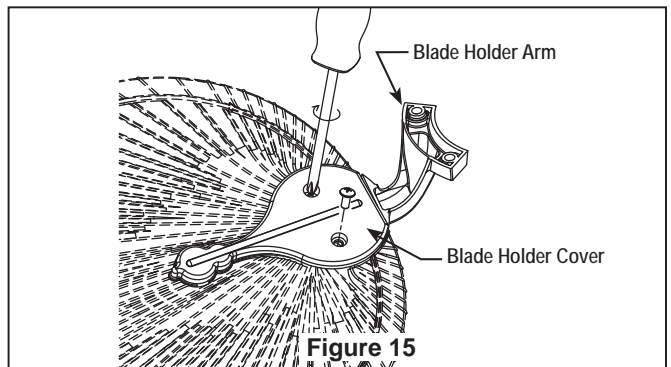

Figure 15
2. Lay flat side of blade holder arm on a flat surface with the inside of the blade holder arm facing up. This is the side with the threaded posts and pitched foot. Position the blade cover the blade holder with the threaded posts showing. Make sure the bottom edge of the blade is fully seated against the blade holder arm. Place blade holder cover on top of the blade, positioning the holes over the threaded posts. With a Philips screwdriver, thread both screws into the posts but do not fully tighten. Prior to final tightening, position the centerline of the blade holder with the center of the end of the blade. Tighten both screws to secure the blade. (Figure 15)